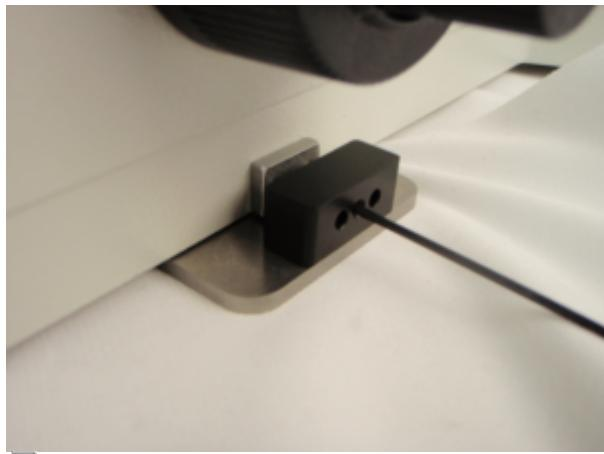

Figure 4d
- d) Once the drive unit is aligned, and alignment screws tightened, ensure the flex shaft notch is still up against the tab (figure 3d) and tighten the drive shaft clamp, as shown in figure 4d below using a 2mm hex wrench. Repeat Steps a-d till minimum drag is felt on right fine focus knob.